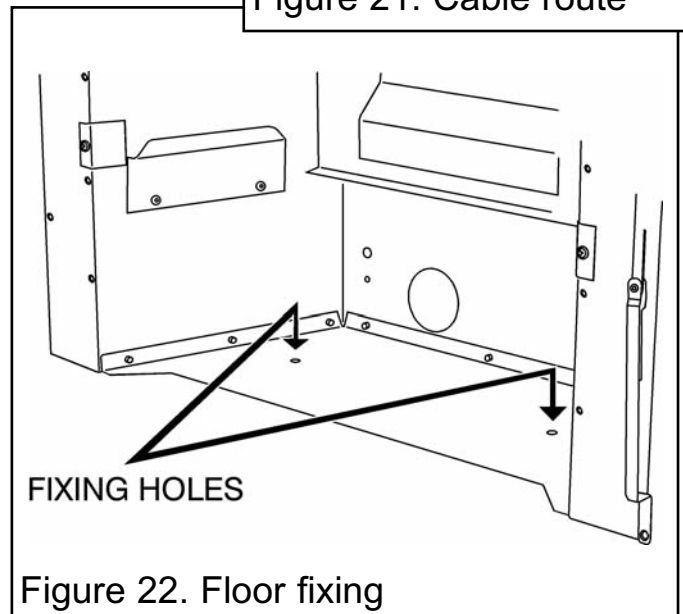

Figure 22. Floor fixing
8. Drill a hole into the fireplace floor through each of the two holes in the base of the convection box using a suitably sized masonry drill for the fibre / wooden plugs supplied (See figure 22).